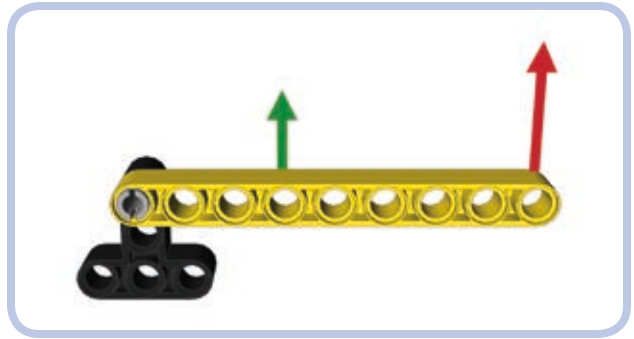

Figure 7-8: Class 3 lever with the effort (green) in the middle and the fulcrum and load (red) at its ends
- * **Class 3** (see Figures 7-8 and 7-9): The effort is located in the middle of the lever and the load and the fulcrum at its ends. Because of this arrangement, the class 3 levers have a mechanical advantage of less than 1 and are used to trade force for distance rather than the other way around. This makes them useful when there is plenty of force that can be used to move the load over greater distance. Example: a boom of a crane elevated by a pneumatic cylinder attached to its middle.